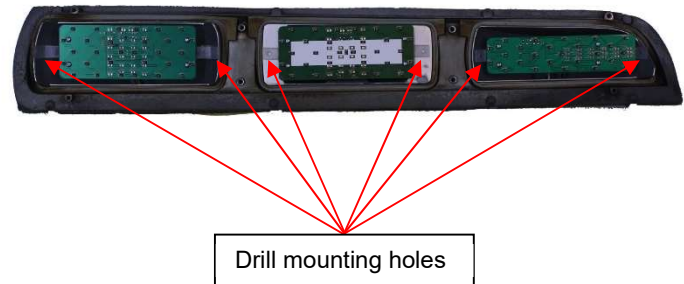

Figure 1
- 3.2. On each Inboard and Outboard light housings, position each LED panel into the appropriate light cell, making sure the labels are positioned towards the top of the housing. The top edge of each plastic mounting bracket on the inboard and outboard panels should be near the top edge of the light cell. Mark the location of two mounting holes to be drilled for each panel. (See Figure 1). Drill an 3/32" hole at each location marked.